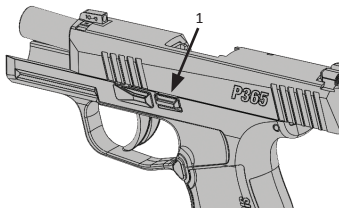

Figure 2
5. Depress the slide catch lever, releasing the slide fully forward (Figure 2, Item 1).